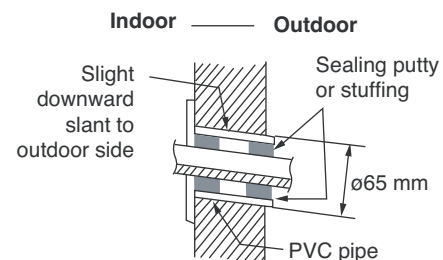

Fig. 13
- (2) Make the tubing hole (ø65 mm) in the wall at a slight downward slant to the outdoor side. (Fig. 13)